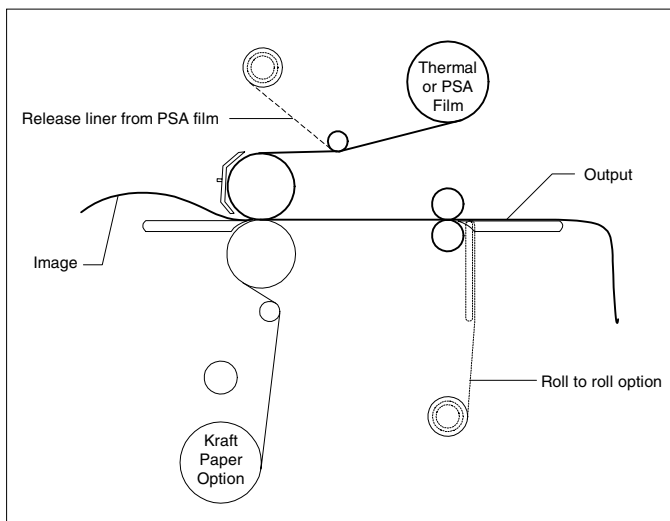

Fig. 36
TIPS FOR SINGLE SIDED LAMINATION (Figure 36)
1. Load the laminator as illustrated in Figure 36.